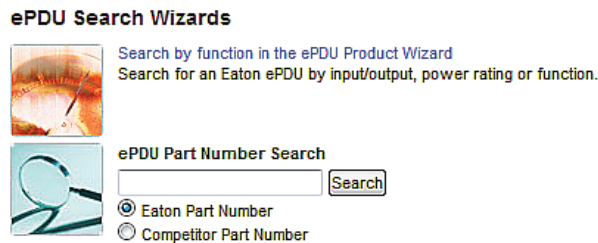

Figure 87. Search Wizard
- Enter the part number of your ePDU in the Eaton Product Wizards “ePDU Part Number Search” field. Click **Search**. The Search Results page displays (see Figure 87).